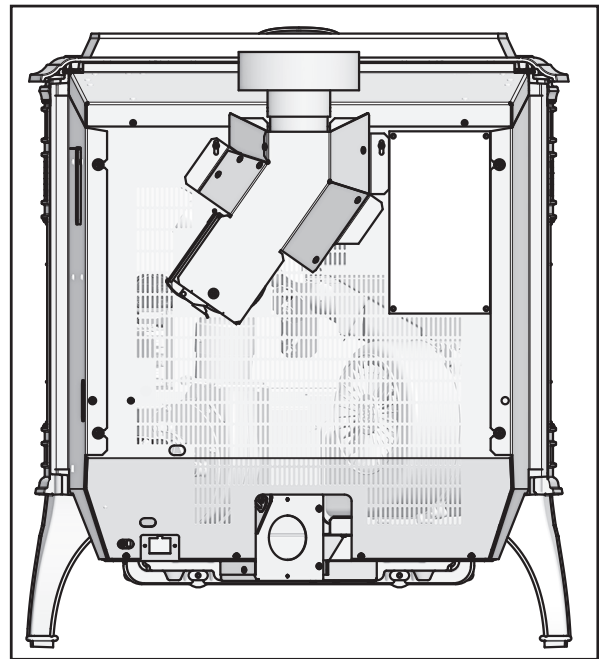

Figure 18.2
3. Align slot on left of adapter with hole in the back of the appliance and secure with screw. You may drill out the hole using #26 drill bit provided but only if needed. **Figure 18.2.**
7. To clean top vent adapter, open clean-out cover and remove any debris build-up. **Figure 18.2.**